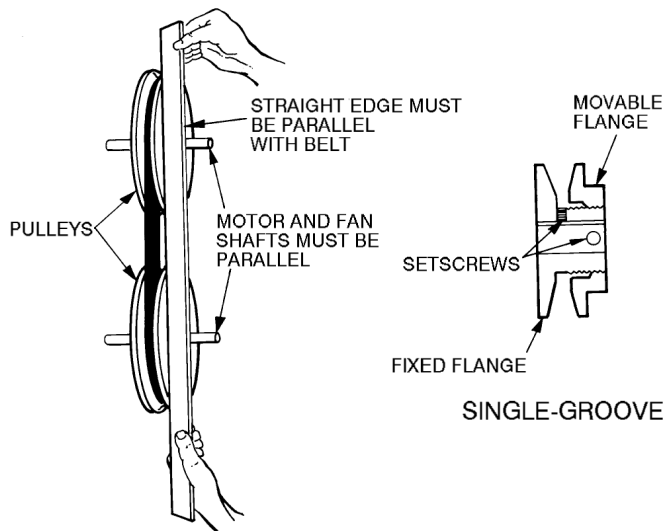

Fig. 21 — Fan Pulley Adjustments
3. Loosen movable pulley flange setscrew (Fig. 21).
Shut off unit power supply. Lock out power supply and tag disconnect locations. Loosen fan motor pulley setscrews and slide fan pulley along fan shaft. Make angular alignment by loosening motor from mounting bracket. Check alignment with a straightedge (see Fig. 21).